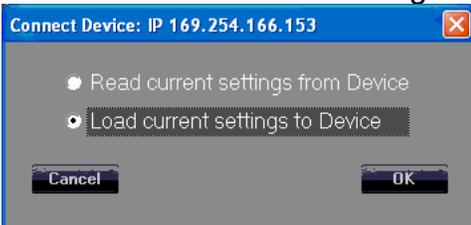

Fig. 19
5. The Connect Device dialog window comes up, as shown in Fig. 19 .